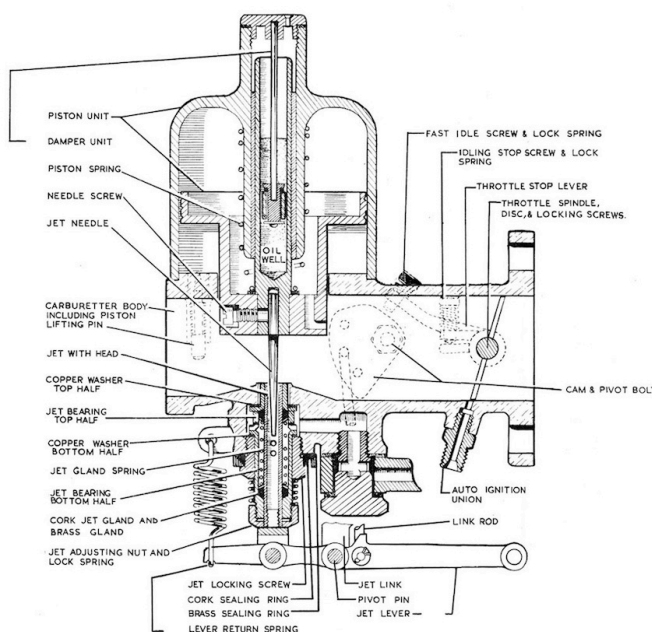

Figure 22. H type carburetter
This is, perhaps, the most familiar type of S.U. carburetor, being the one which has been in general use for the longest period and therefore in larger quantity than any other type. It is shown in diagrammatic form in Fig. 22. It consists of body, piston/suction chamber, jet and float chamber assemblies, the fuel being fed from the float chamber through a passageway in the float chamber arm into the fuel passages of the body, and thence through cross drillings in the jet assembly. It has been made in horizontal and semi-down draught form with throttle disc sizes ranging from 1 in. to 2 in. diameter. As with all current S.U. carburetors its size is designated by the type letter followed by a number. This number indicates the diameter of the butterfly, and is the number of eighths of an inch that the diameter is larger than 1 in., e.g. an H1 instrument has a bore of 1 in. and an H8 has a bore of 2 in.
With the cam-type jet and throttle interconnection (shown dotted in Fig. 22) or its preceding rocker type, the outer adjusting screw (1) should be about 1/64 in. away (thickness of a visiting card) from the cam face or rocker face when the engine is warm and idling on a closed throttle; with the rocker type this figure should not be exceeded, but with the cam type a larger gap can be used if desired. If the jet adjusting nut is altered in position substantially then the screw (1) may also need suitable readjustment.